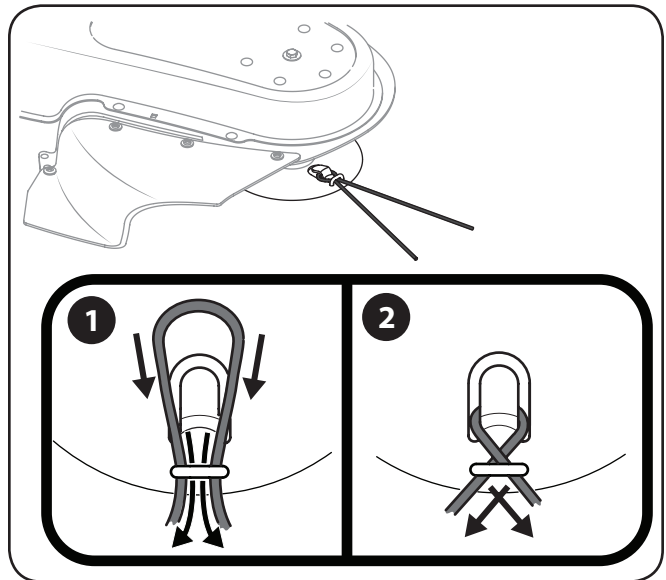

Figure 5-2
4. Cross the line ends and pull each tightly to secure the trimmer line in place. See Figure 5-2.